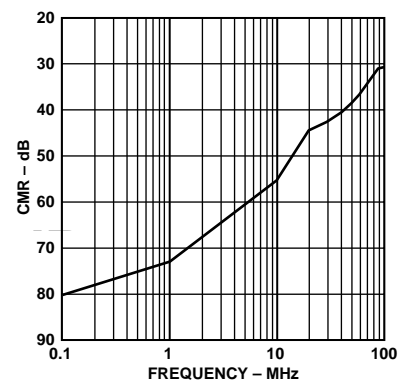

Figure 16. CMR vs. Input Frequency
Differential operation requires that VINA and VINB be simultaneously driven with two equal signals that are in and out of phase versions of the input signal. Differential operation of the AD9243 offers the following benefits: (1) Signal swings are smaller and therefore linearity requirements placed on the input signal source may be easier to achieve, (2) Signal swings are smaller and therefore may allow the use of op amps which may otherwise have been constrained by headroom limitations, (3) Differential operation minimizes even-order harmonic products, and (4) Differential operation offers noise immunity based on the device’s common-mode rejection as shown in Figure 16.